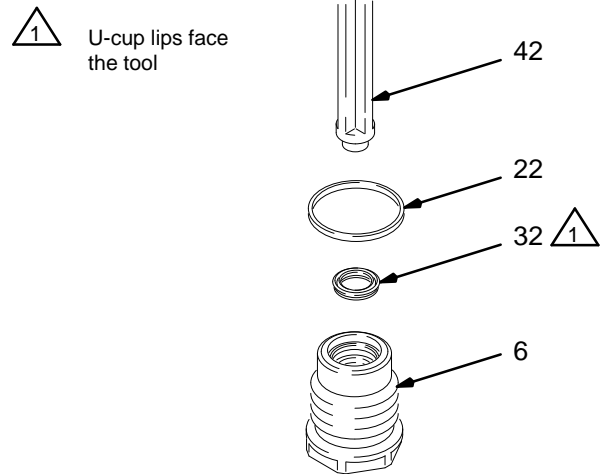

Fig. 40 02021
- Remove the u-cup seal (32) from the fluid adjustment nut (6). See Fig. 40. Do not damage the seal surface or the nut's internal threads.
- Place the new u-cup seal (32) on the seal installation tool (42) with the u-cup lips facing the tool. See Fig. 40.
- Push the u-cup seal (32) into the fluid adjustment nut (6) until a definite snap is felt.